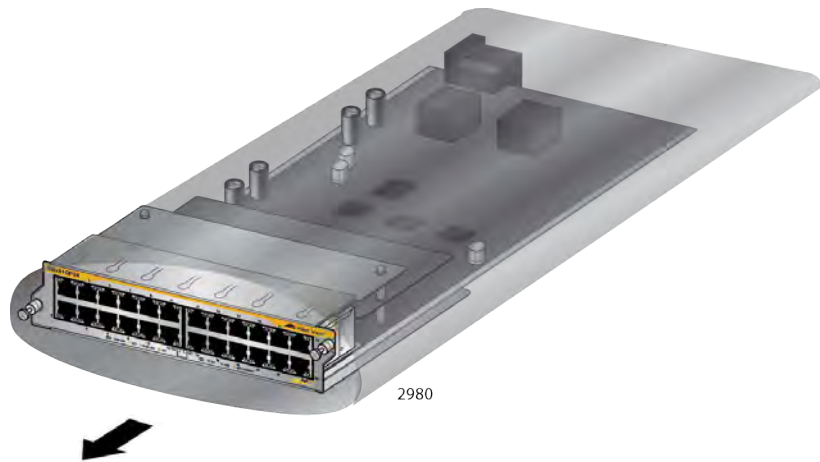

Figure 93. Removing the Ethernet Line Card from the Anti-static Bag
3. Carefully remove the Ethernet line card from the anti-static bag. Refer to Figure 93.